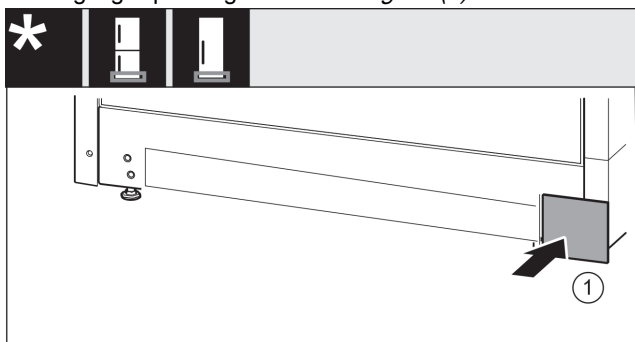

Fig. 20
- ▶ Put back the cover on the other side. *Fig. 20 (1)*